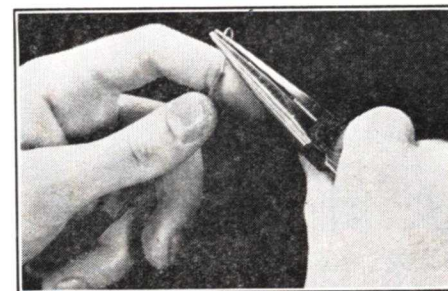

FIG. 27. Forming a hook on solid wire with long-nose pliers, preparatory to making a soldered hook joint.
*Step 1.* To make a temporary hook joint to a soldering lug with solid wire, bend one end of a length of the solid, tinned push-back wire (we will designate this as Part 1-7A) into a hook by using long-nose pliers, as illustrated in Fig. 27. Insert this hook in the hole in lug 1-8D, starting from the bottom of the lug as shown in Fig. 28A. Bend the hook a little more after